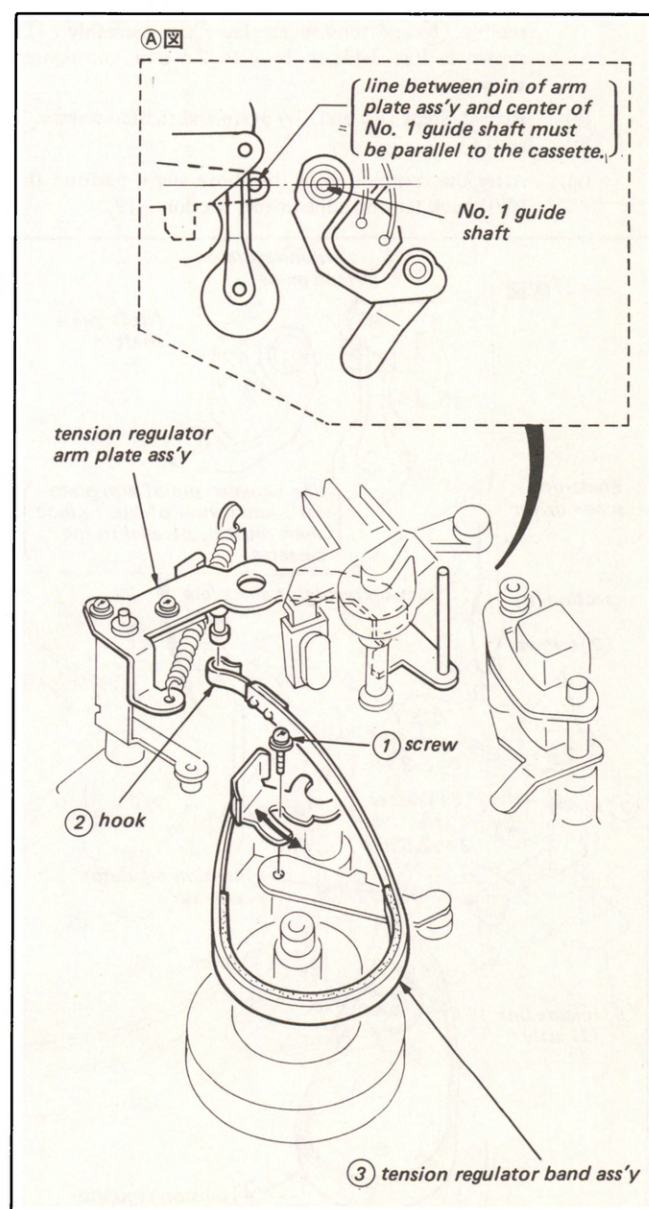

Fig. 3-10. Replacement and adjustment of the tension regulator band assembly
1. The tension regulator band assembly can be removed after removing screw ① and hook ② shown in Fig. 3-10.
- (iii) Move the tension regulator band assembly ③ in the arrow direction as shown in Fig. 3-10 so that the positional relationship of the brake band assembly is as shown (A) in Fig. 3-10. Then tighten screw ①.